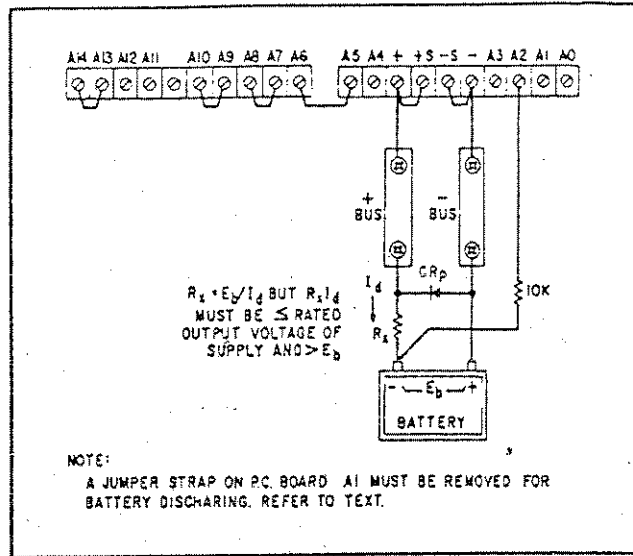

Figure 3-11. Battery Discharging
**3-59 Automatic constant current, unattended discharging** of a battery using the SCR-10 Series requires certain changes in the strapping configuration on the rear barrier strip as illustrated in Figure 3-11. Also, a jumper strap on P.C. Board A1 must be removed (see Figure 7-1 for location). Removal of this jumper ensures that the internal programming current does not flow into terminal A2. Before operation, the user should make sure that the interconnecting leads between supply and battery are secure and cannot become opened.
**3-60** The supply initially operates in constant current mode at the value set by the current control. When the battery voltage is high the supply output voltage will be low, and as the battery discharges the supply output voltage increases. A constant voltage is maintained across  $R_X$  (constant current through  $R_X$ ). This condition will prevail until the battery voltage drops to zero. At this point, the supply will switch off and no more current will flow through  $R_X$ . Diode  $CR_P$  protects the supply against reverse voltages. As shown on Figure 3-11,  $R_X$  must be selected so that its IR drop is less than the maximum rated output of the supply yet greater than the battery voltage.